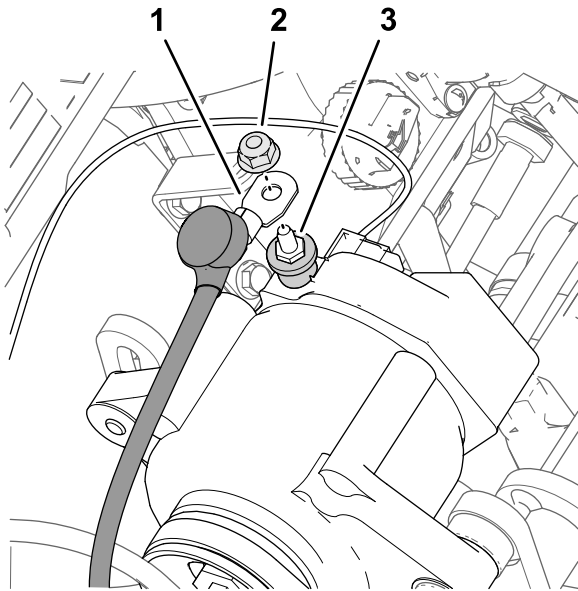

Figure 232
- Remove the nut from the terminal post (Figure 232) of the alternator (50 A).
- Assemble the end of the red, 6 gauge alternator cable with the insulator cover onto the terminal post of the alternator (50 A) with the nut (Figure 232).
- Slip the insulator cover over the terminal post of the alternator (Figure 232).